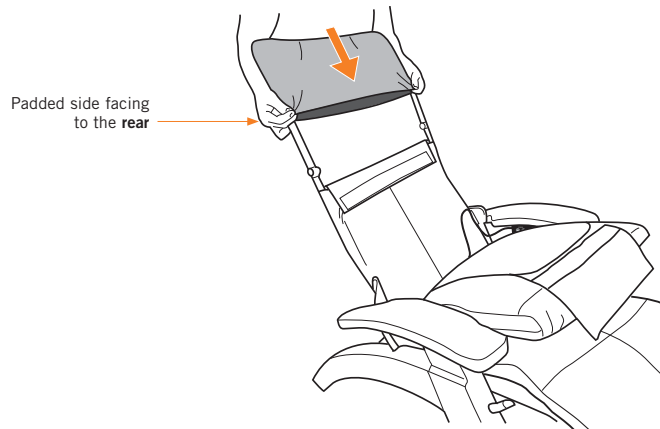

Fig.14
1. Slide the head sock over the headrest frame, with the padded side facing to the rear (Fig.14).